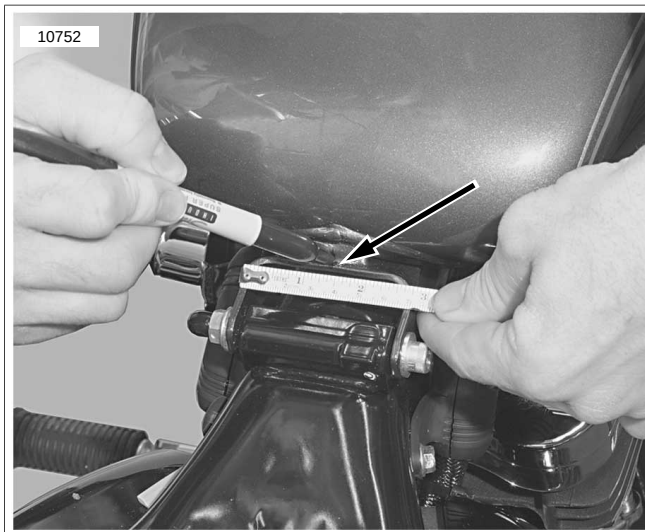

Figure 4-16. Marking Fuel Tank Centerline
1. See Figure 4-16. Measure and mark the centerline of the fuel tank at the rear of the tank.